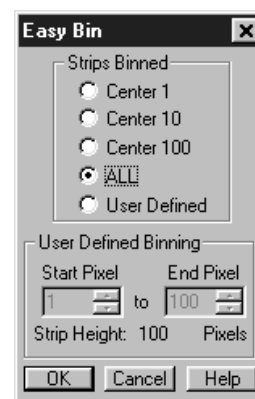
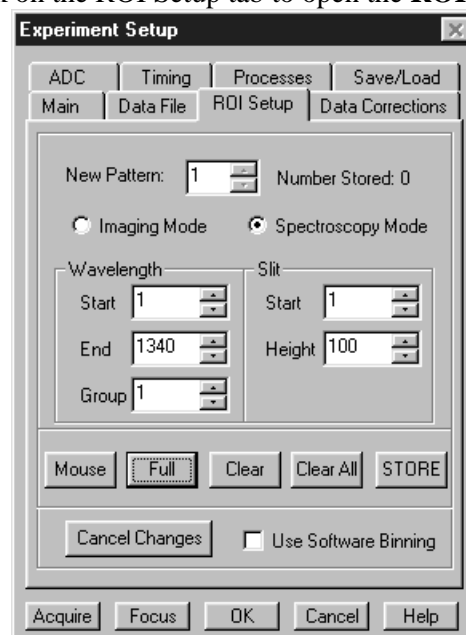

Figure 118. Easy Bin dialog box
Figure 119. ROI Setup tab page (Spectroscopy Mode)
A Region of Interest (ROI) may be the entire CCD array or it may be a rectangular subregion of the array. For data acquisition, the definition of such a region is done either from the Easy Bin dialog box (Figure 118) accessed from the Acquisition menu or from the ROI Setup tab page (Figure 119), accessible after selecting Experiment Setup from the Acquisition menu. Easy Bin is a simple way of defining a single full chip width ROI. ROI Setup allows you to create multiple ROIs with greater flexibility in ROI location and width.
2. On the **Easy Bin** dialog box (Figure 118), click on the appropriate radio button:
1. Open the **Experiment Setup** dialog and click on the ROI Setup tab to open the **ROI Setup** tab page (Figure 119).